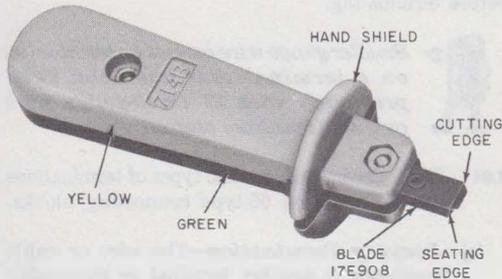

Fig. 1—714B Tool
2.01 The 714B tool (Fig. 1) is used to make terminations on 66-type connecting blocks.